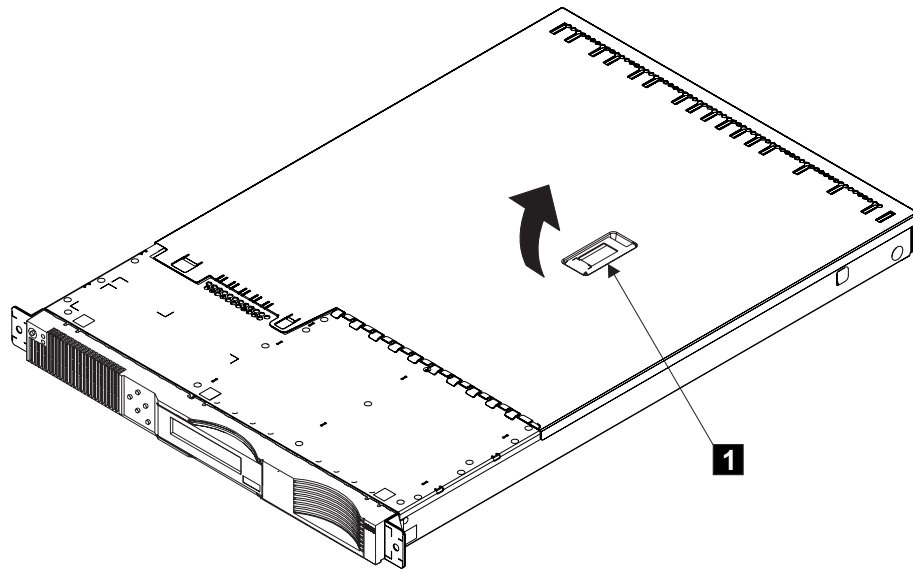

Figure 69. Removing the top cover
3. Lift the lever. See **1** in Figure 69. This action moves the top cover rearward approximately 13 mm (0.5 in).